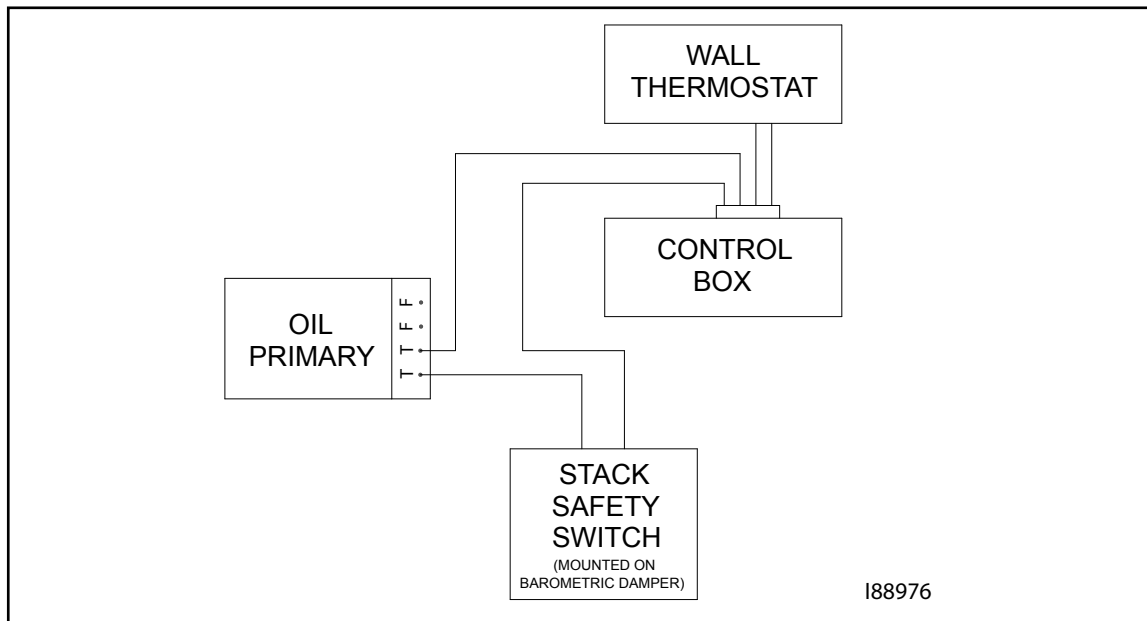

Figure 4M - Stack Safety Switch Wiring Diagram
5. Install the wall thermostat according to the instructions provided in the *Operator's Manual, Section 4*. Wire the wall thermostat and stack safety switch in series as shown in Figure 4M. Install the wire so that it is secured away from any hot surfaces.